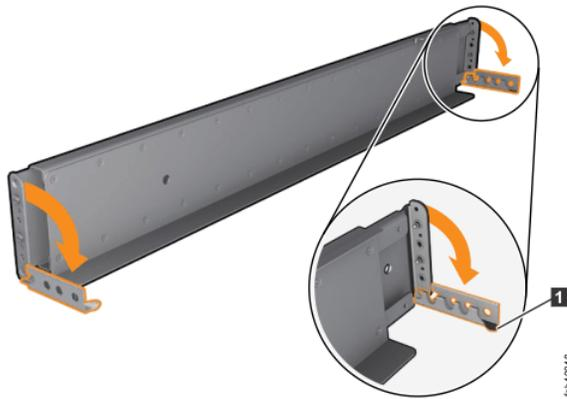

Figure 37. Opening the hinge brackets
6. At each end of the rail, grasp the tab **1** and pull *firmly* to open the hinge bracket (see Figure 37 on page 77).